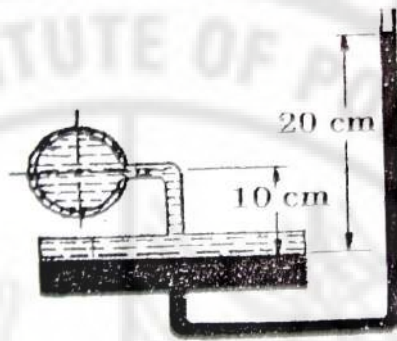

Fig. 1.17
- 1) Determine the pressure in a pipe containing a liquid of specific gravity 0.8. A micro manometer was used a s shown in fig.1.17. The ratio of area of the basin to that of the limp is 50.